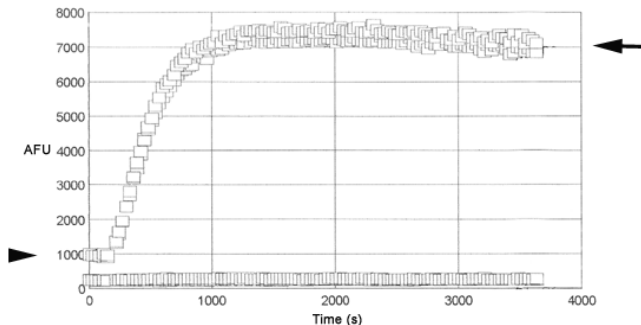

Figure 1. Pyrene actin polymerization assay.
6. After 3 min, pause the read, and add (1). 20 μ l of test buffer to wells E1 and F1, and (2). 20 μ l of the test protein/drug into wells G1 and H1. Return the plate to the fluorimeter, shake for 5 s and continue reading for 20 min. This will indicate if the test buffer or test protein/drug sample **alone** can enhance actin polymerization.
9. See Figure 1 for a typical positive control pyrene actin polymerization reaction.
(see Figure 1) or barbed-end while the slow growing end is called the minus-end or pointed-end.